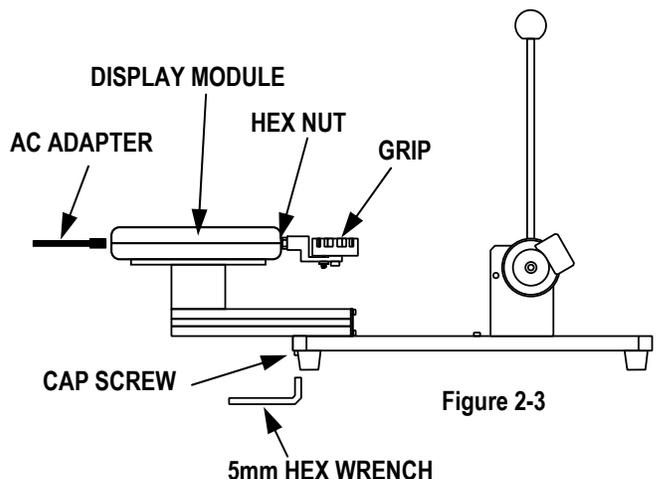

Figure 2-3
2.3 Installation (See Figure 2-3)